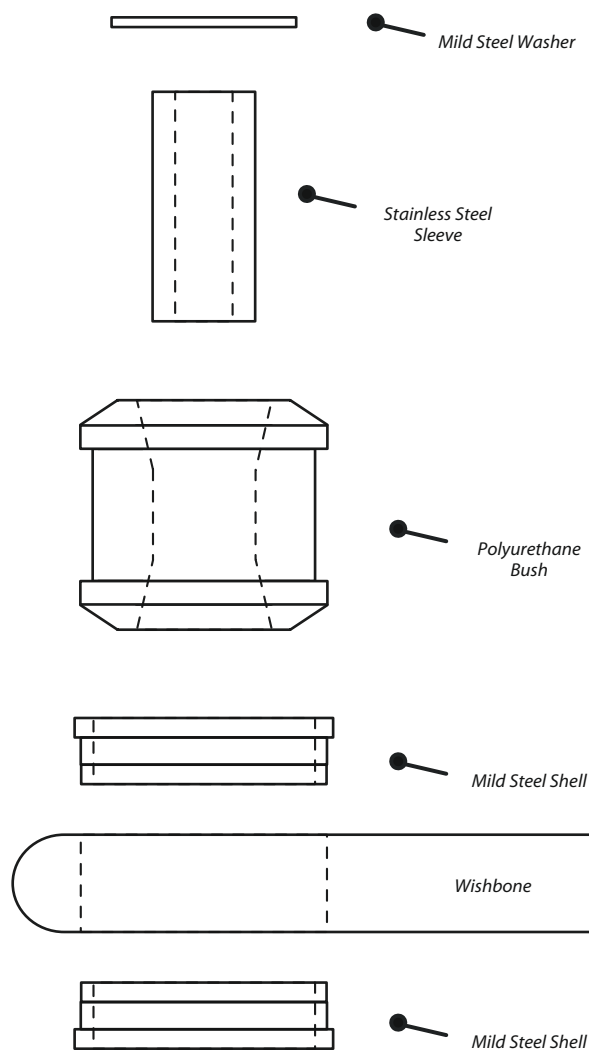

Figure 1
4. Using the press again, push two of the metal shells into the arm, one from each direction, until the top lip meets the arm (Figure 1).
5. Press the Polyurethane bush into the bore of the fitted metal shells (Figure 1). The use of washing up liquid as a lubricant is recommended.
6. Apply the supplied grease to the outside of the stainless sleeve and the tapered bore of the bush, and push the sleeve into place in the bush (Figure 1).
7. Use a small amount of grease to stick the washer to the top of the sleeve (Figure 1).